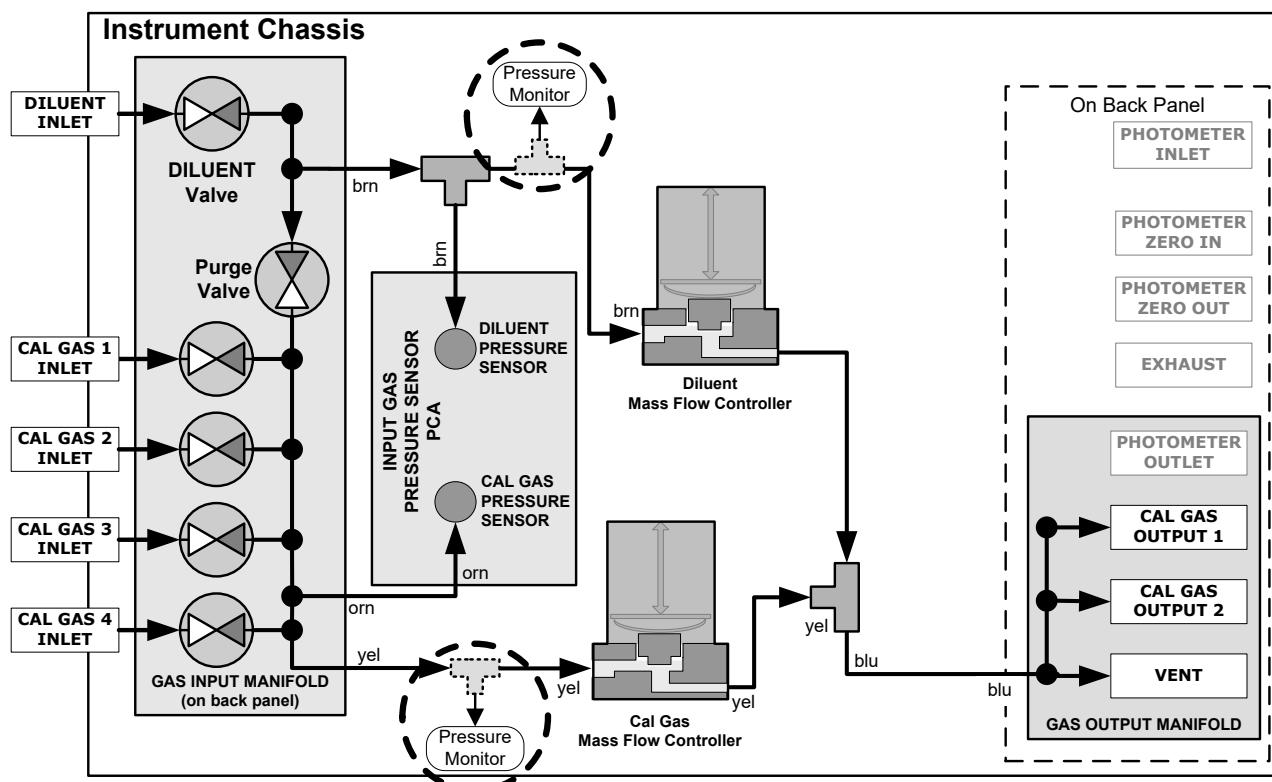
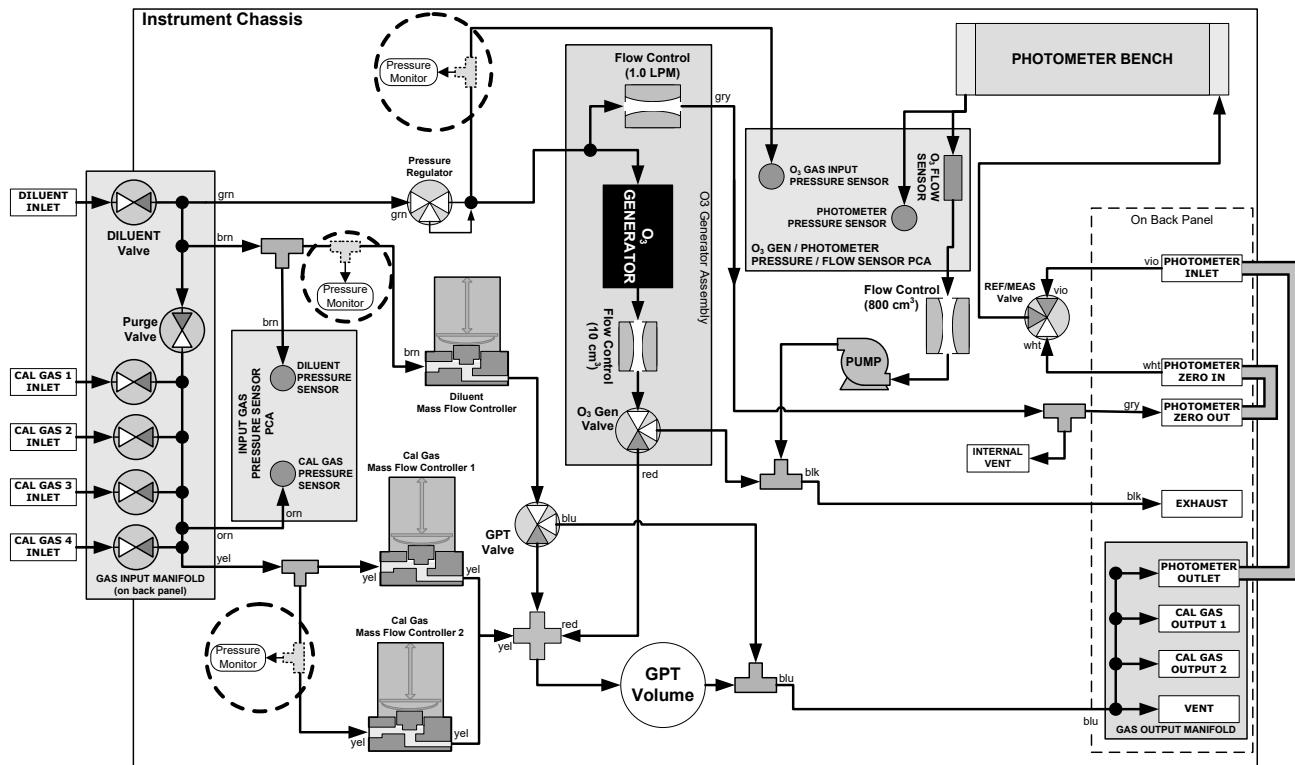

Figure 5-11. Pressure Monitor Points in Basic Unit
Figure 5-12. Pressure Monitor Points with O₃ Options and Multiple Cal MFCs Installed
2. For the sensor being calibrated, insert a "T" pneumatic connector and pressure monitor at the location described in Table 5-2 and shown in Figure 5-11 and Figure 5-12.